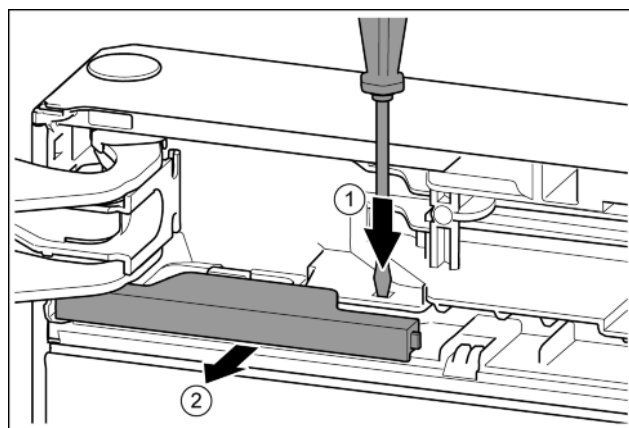

Fig. 11
- Press tab with Phillips screwdriver. Fig. 11 (1)
- Remove cover from the locking fixture. Fig. 11 (2)